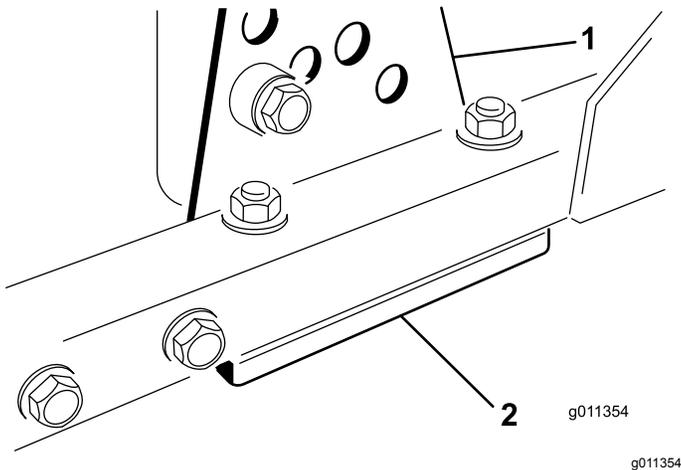

Figure 102
1. Remove the height-of-cut bracket, (front, left, or right) from the deck frame (Figure 102).
2. Adjust 1.5 mm (0.060 inch) shims and/or 0.7 mm (0.030 inch) shims between the deck frame and bracket to achieve the desired height setting (Figure 102).